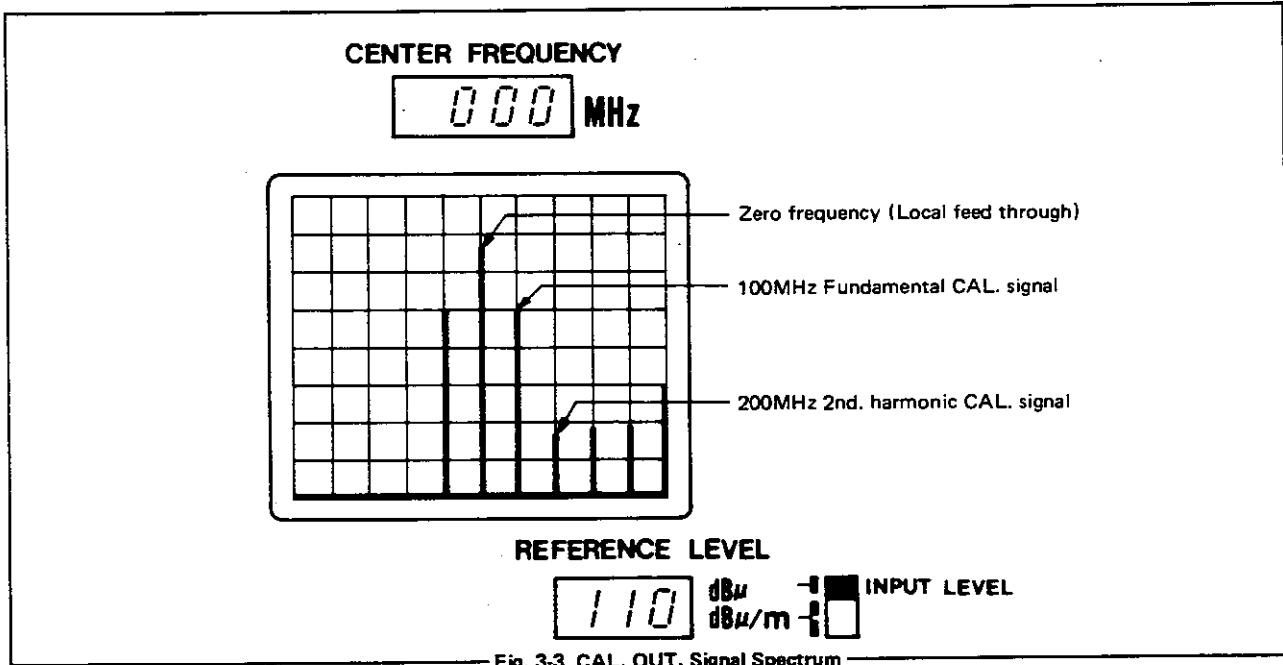

Fig. 3-3 CAL. OUT. Signal Spectrum
- (9) At this time the CRT display is as shown in [Fig. 3-3].
- (10) Run the instrument in this condition for about 30 minutes.